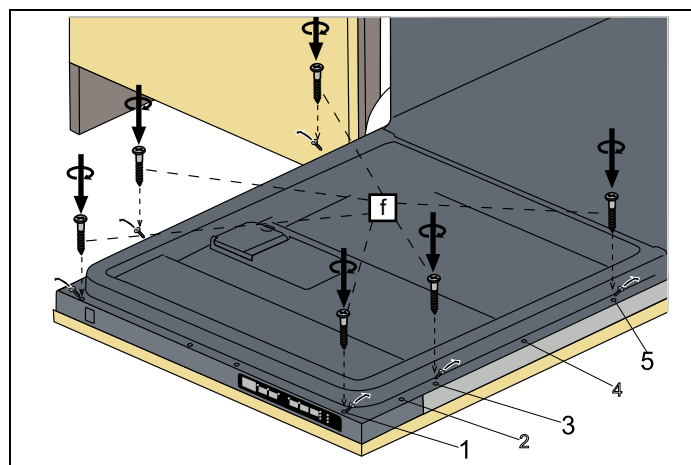

Fig. 22
- 6) The screws located on the wooden door are fitted to the dishwasher at the discharges located on the door outer sheet and are assembled as shown in Fig. 22 .
- 7) As shown in Fig. 22 , Screws $\varnothing 5/32'' \times 53/32''$ ($\varnothing 4\text{mm} \times 42.5\text{mm}$) are installed in positions I, III and V.